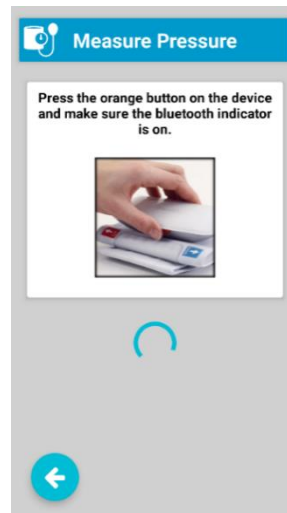
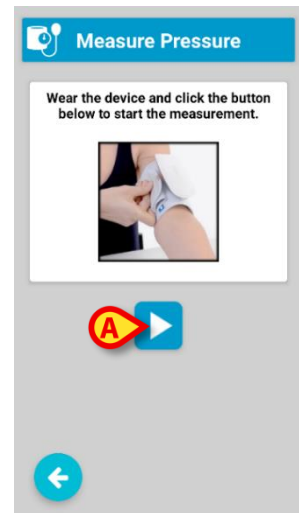

Fig 15
Fig 16
- Prepare the physical device (Fig 15 and Fig 16 - follow the instructions provided on screen).
- Tap the “Play” button  (Fig 16 **A**).